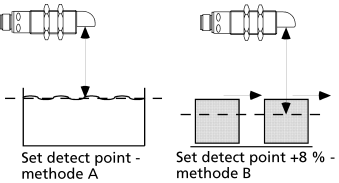

Fig. 3: Setting the detect point for different directions of movement of the object
- In the »Set detect point – method A« Teach-in procedure the actual distance to the object is taught to the sensor as the detect point. If the object moves towards the sensor (e.g. with level control) then the taught distance is the level at which the sensor has to switch the output, see fig. 3.
- If the object to be scanned moves into the detection area from the side, the »Set detect point +8 % – method B« Teach-in procedure should be used. In this way the switching distance is set 8 % further than the actual measured distance to the object. This ensures a reliable switching distance even if the height of the objects varies slightly, see fig. 3.